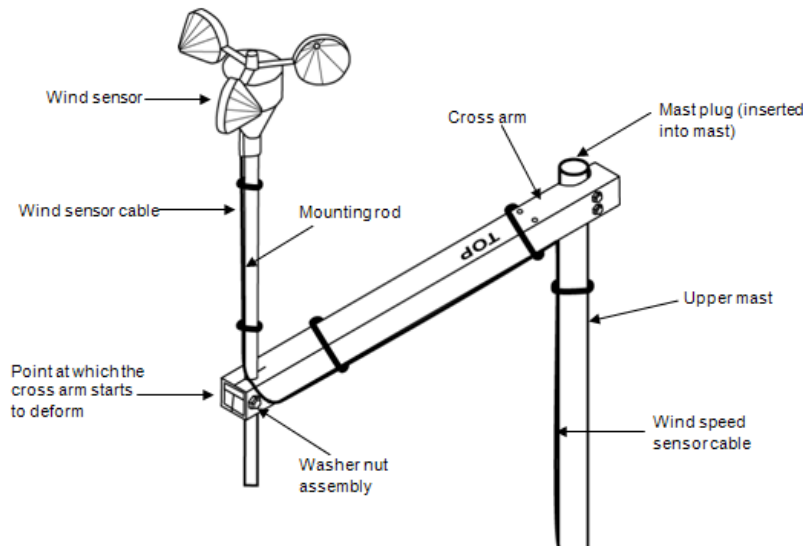

Figure 2: Attach Mounting Pole to Cross Arm
- Loosely secure the sensor mounting pole with two hose clamps (not included), as shown in Figure 2.